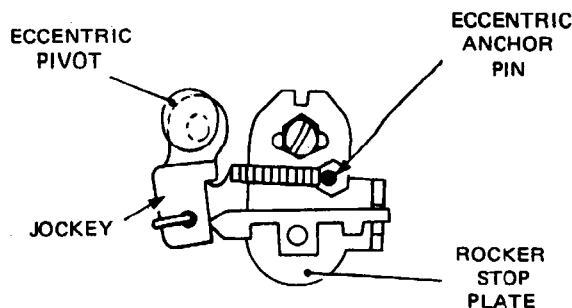

Fig. 4.23 JOCKEY MECHANISM (REAR VIEW)
- 25.3 To adjust the two forces if one is high and the other is low, slacken the nut securing the eccentric pivot, Fig. 4.23, turn the pivot to correct the difference, ensuring that the throw of the eccentric is toward the rocker stop plate as shown, and secure the pivot.